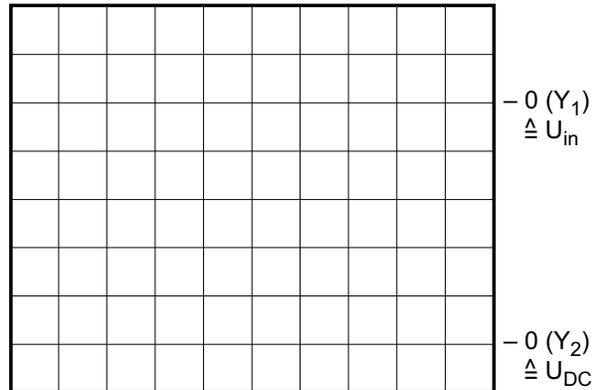

Fig. 1.3.2.3
- Plot the curve of input voltage  $U_{in}$  and of DC voltage  $U_{DC}$  which results using the smoothing capacitor  $10 \mu F$  on the grid of Fig. 1.3.2.3.